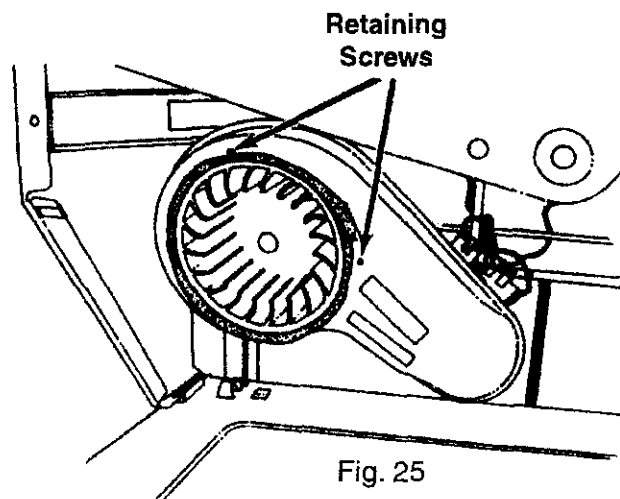

Fig. 25
4. Remove the Blower Assembly, Transition Duct and Blower Plate by removing the retaining screws. (Fig. 25)